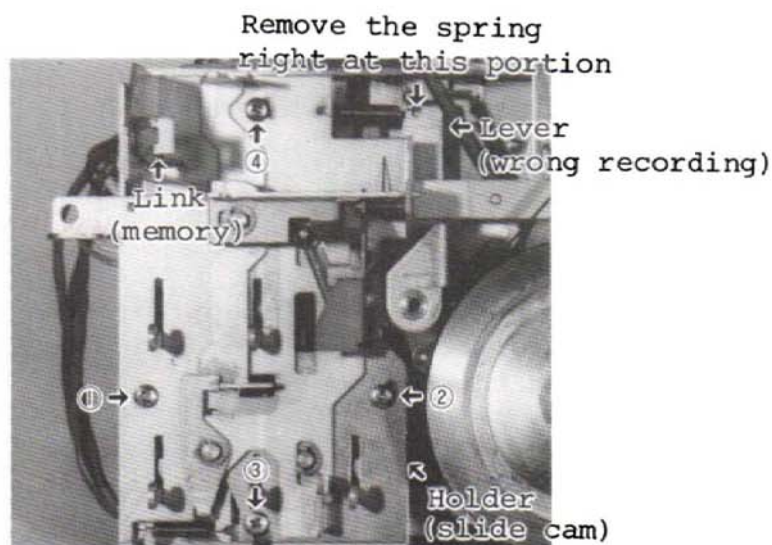

Fig. 8 (Rear Push Button Part)
- f. Remove screws (M2.6 x 0.45 x 1.2) from ① to ② and those (M2.6 x 0.45 x 5) on the rear of the push button given in Fig. 8 and the push button part by taking out the button on the tip of the link (memory) and the link. If the spring shown on the right upper portion of Fig. 8 is removed on the lever side, the holder (slide cam) can be disassembled.